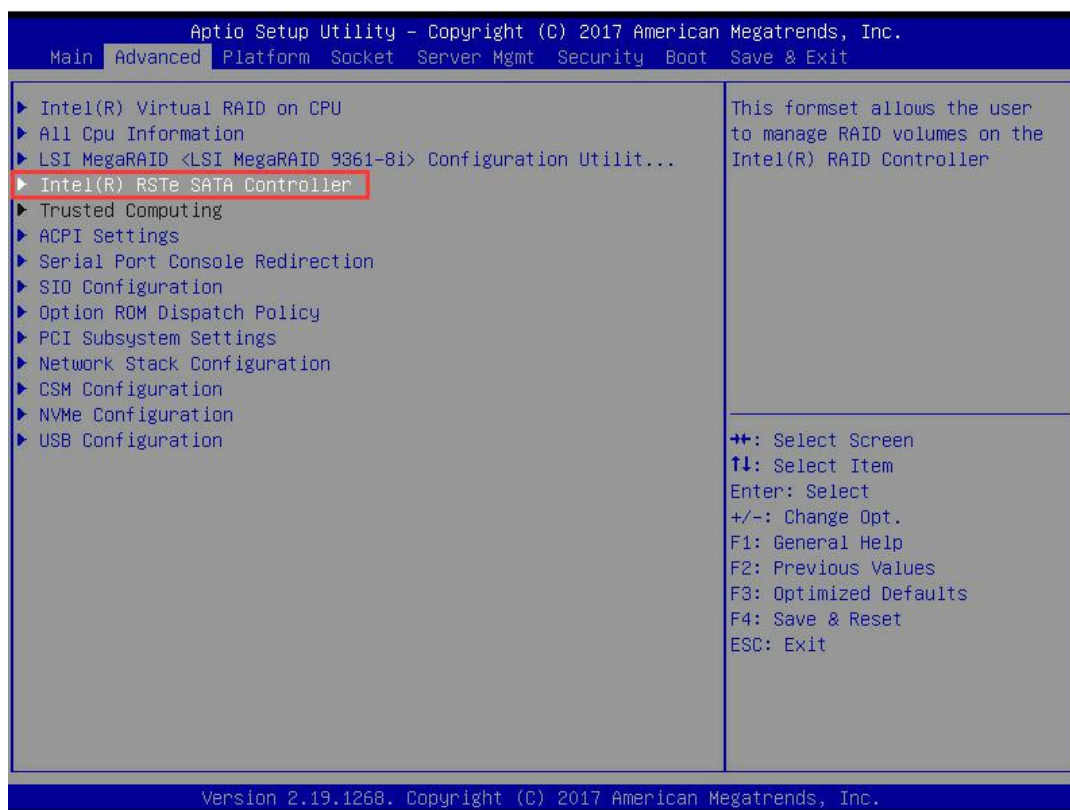

Fig. 6.3
- ✧ Restart the server, enter the BIOS Setup interface, move to the advance page, and you will see Intel (R) RSTe SATA Controller, press enter to configure RAID, such as Fig. 6.3
- ✧ Fig. 6.3 Intel RSTe SATA Controller